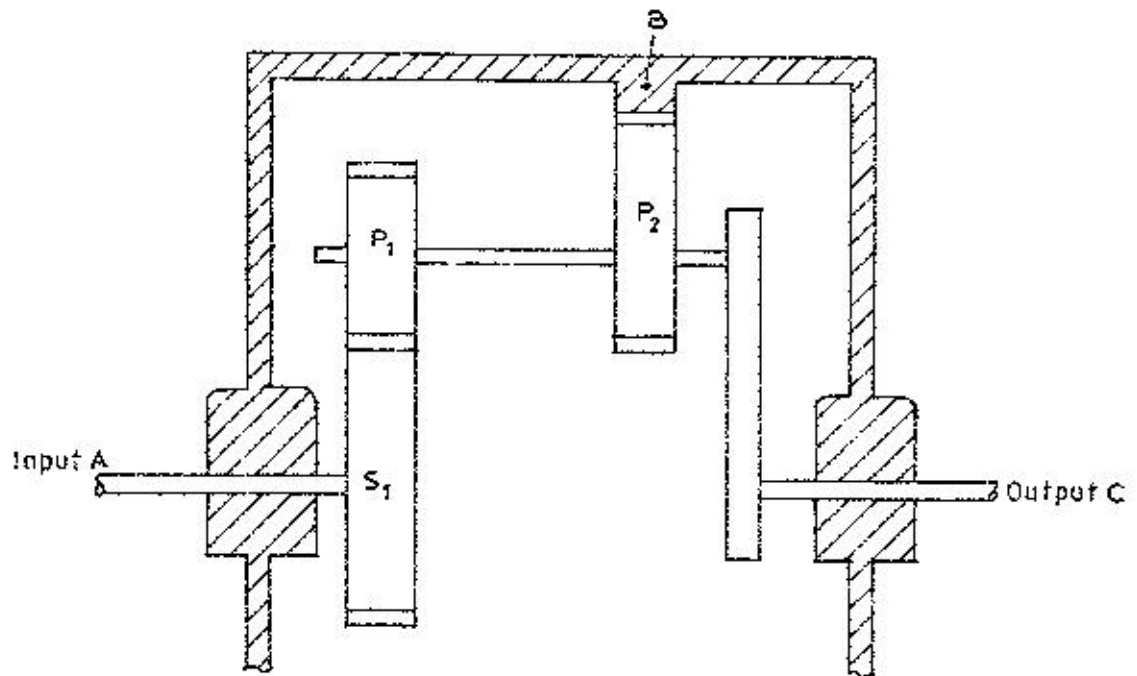

Fig. 4
- (b) Fig. 4 shows the parts of an epicyclic gear train. The number of teeth on the gears are; B = 88, $P_1 = 40$, $P_2 = 24$ and $S_1 = 24$. The input shaft A rotates at 1,800 rev/min. Determine the.